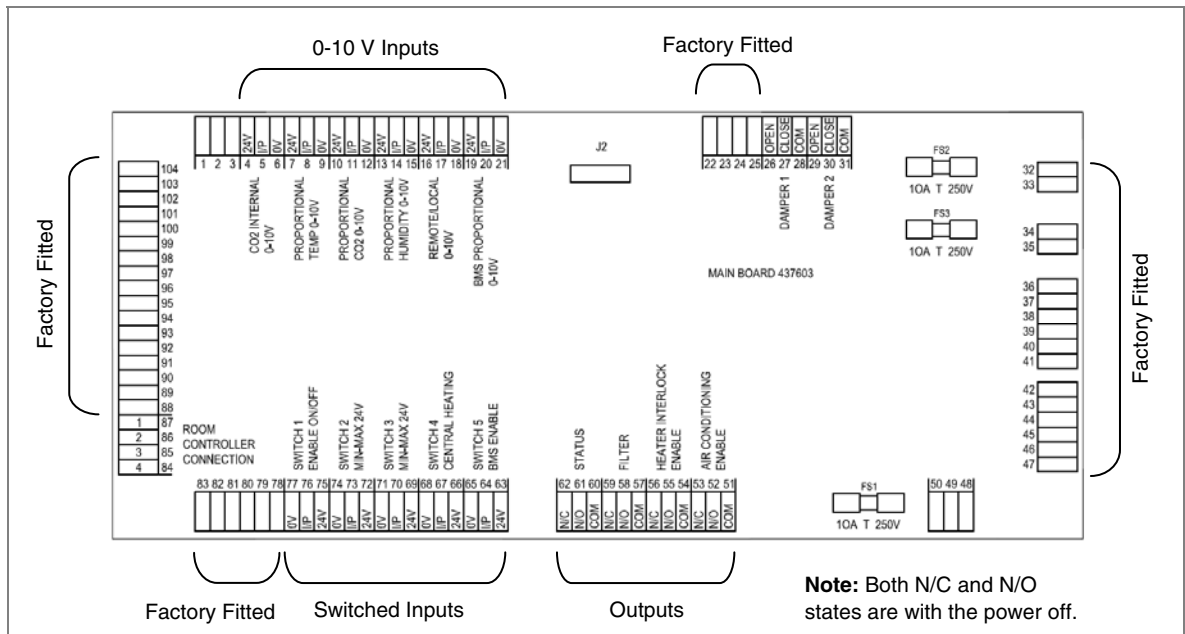

Figure 8: Main Controller PCB Terminal Connections
4. Connect pins 1-4 on the Commissioning Interface terminal block to the corresponding pins 1-4 on the Main Controller PCB, see *Figure 8: Main Controller PCB Terminal Connections*, i.e. connect Commissioning Interface pins 1 to 87, 2 to 86, 3 to 85 and 4 to 84.